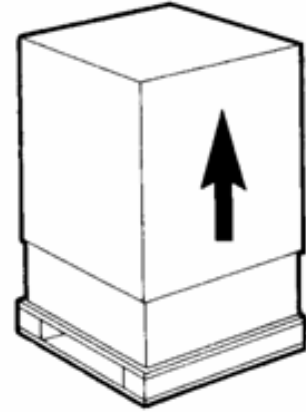

Fig. 1
a) Release the equipment from the packing, then slide it off upwards (see fig. 1); preserve the packaging in order to reuse it for winter storage and make sure the machine is in perfect condition.